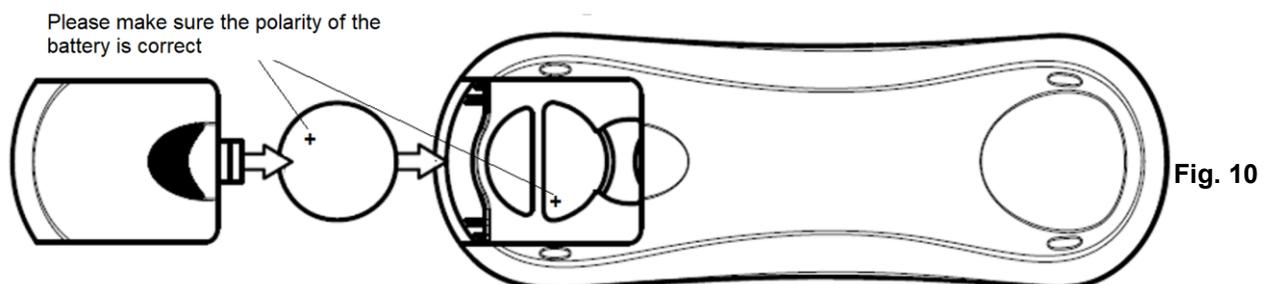

Fig. 10
- Install the 3V DC battery in the compartment. Please make sure the polarity of the battery is correct. Fig.10